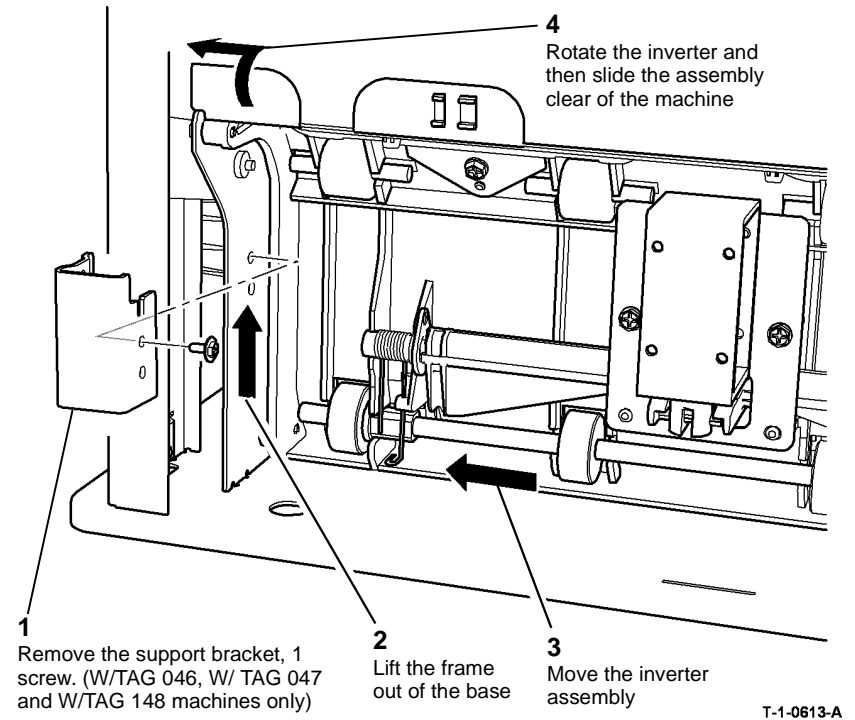

Figure 4 Move the inverter to the front
8. Lift the inverter assembly and move to the front, Figure 4.